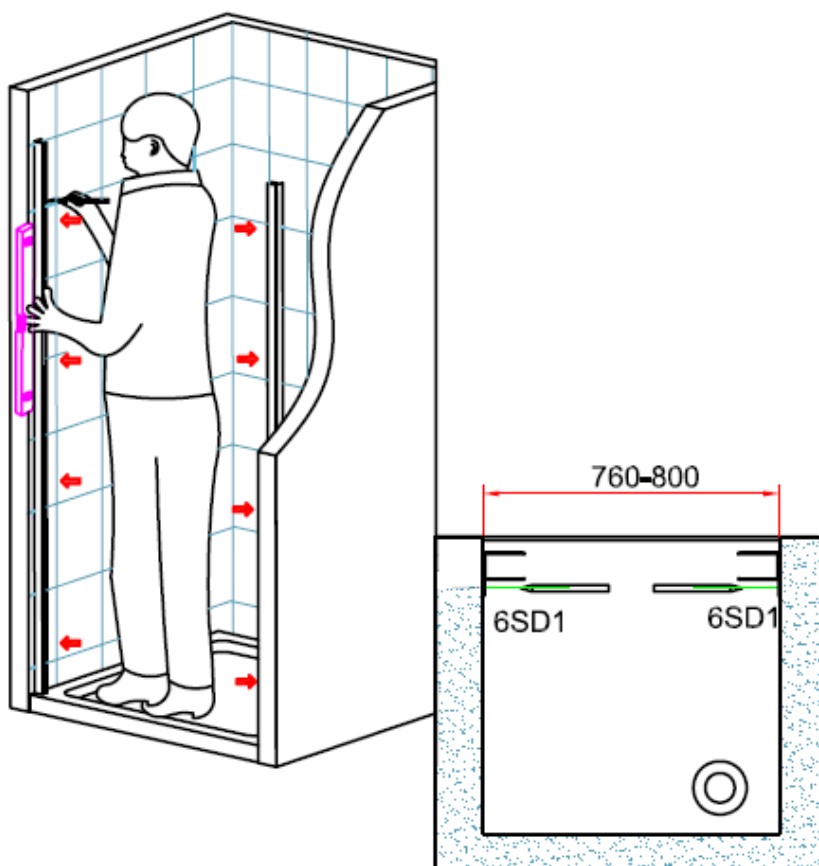

Figure 2
2. Lift the wall profile(6SD1) upto the wall. Check whether the frame is vertical by using a spirit level. Mark the holes to the walls with a pencil, as shown in figure 2.